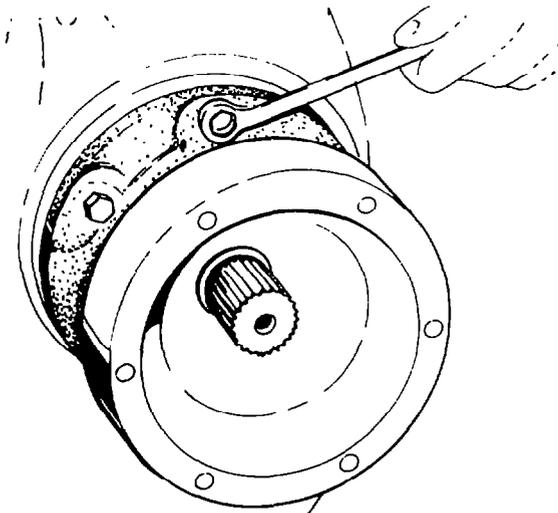

Fig. 271 — Removing Bevel Pinion Housing Bolts
- k. Remove the bolts and lockwashers retaining the bevel pinion housing to the carrier housing (see fig. 271).